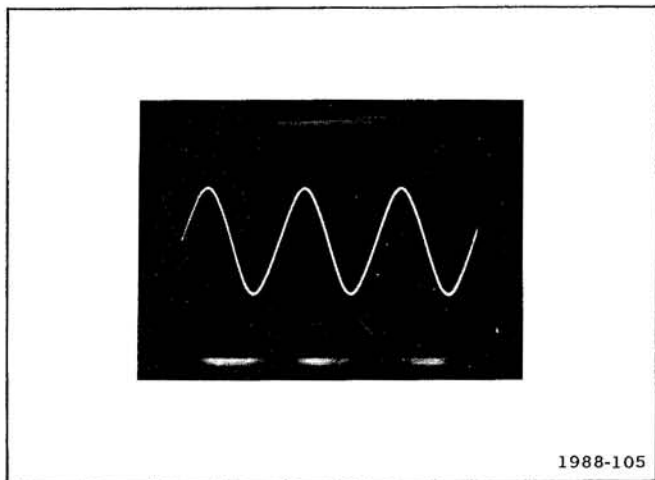

Figure 5-8. Waveform at TP34 on the Power-Supply Inverter board with the line voltage at about 20 V.
6. If no burst waveform occurred in part 4, repeat part 1 of this step. Then disconnect the current probe. Connect a 10X voltage probe from the test oscilloscope to TP34 on the Power-Supply Inverter board (see Figure 8-18). (After following the procedure under Access to Components in the Power Supply Unit, remove the line inverter shield from the circuit board. TP34 is labeled "TANK" on the Power Supply Inverter board. Set the variable autotransformer for 20 volts and check for a filtered line waveform which is centered about 0 volts (see Figure 5-8). If the waveform is not centered, check Q46, CR32, CR40, CR45, and CR49 for shorts or leakage.